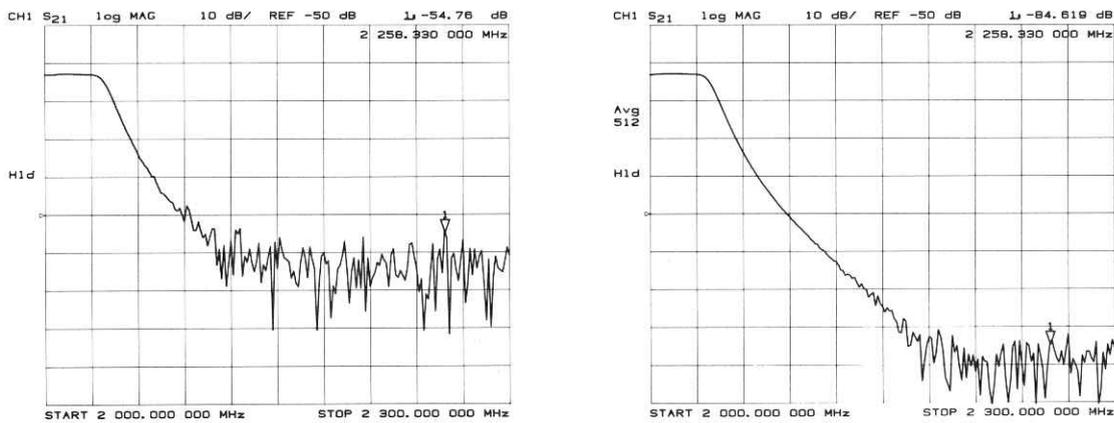

Figure 4-28. Effect of Averaging on a Trace
**Averaging** computes each data point based on an exponential average of consecutive sweeps weighted by a user-specified averaging factor. Each new sweep is averaged into the trace until the total number of sweeps is equal to the averaging factor, for a fully averaged trace. Each point on the trace is the vector sum of the current trace data and the data from the previous sweep. A high averaging factor gives the best signal-to-noise ratio, but slows down the trace update time. Doubling the averaging factor reduces the noise by 3 dB. Averaging is used for ratioed measurements: if it is attempted for a single-input measurement (e.g. A or B), the message "CAUTION: AVERAGING INVALID ON NON-RATIO MEASURE" is displayed. Figure 4-28 illustrates the effect of averaging on a log magnitude format trace.